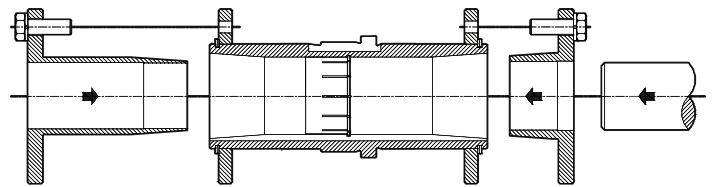

Figure 3 - Short Shaft Bushing and Output Assembly
2. The long bushing is designed to be installed from the side of the reducer opposite the driven equipment as shown in Figure 3. The long bushing when properly installed is designed to capture the end of the customer shaft that does not extend through the reducer. Normally the reducer would be mounted such that the input shaft extends from the side of the reducer opposite the driven equipment however the reducer design allows installation of the reducer to be mounted in the opposite direction.
3. Install the tapered bushing wedge into the hollow bore of the reducer from the same side as the long bushing will be installed. When installing the tapered bushing wedge into the reducer hub, install the flange end first so that the thin taper is pointing outwards towards the long bushing as shown in Figure 3. The wedge is properly installed when it snaps into place in the reducer hub.